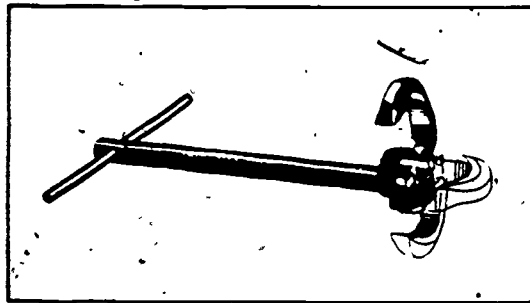

Figure 3-43. Basin wrench.
**Basin wrench.** The basin wrench, illustrated in figure 3-43, is a tool used to turn nuts that are hard to get at; for example, the nuts which connect the water supply line to the faucets under a lavatory or sink. The jaws of the wrench are adjustable over an arc of 180° so that the wrench can be used to loosen nuts as well as tighten them. Make sure that the jaws are clean and sharp and that the movable parts are well oiled. When the teeth become dull, they should be sharpened.